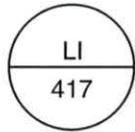

Figure 55. Instrument Tag
12. Determine the measured variable indicated in the instrument tag in figure 55.